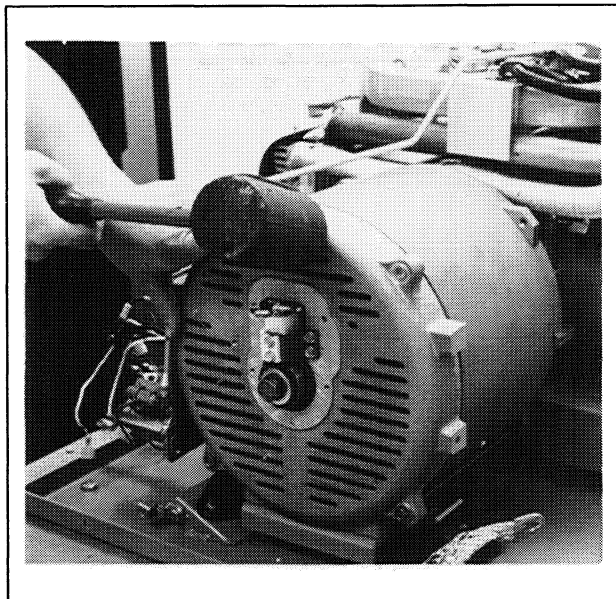

Figure 8-17. Positioning End Bracket
5. Route stator leads through opening in end bracket while positioning end bracket on stator. Tap end bracket into position with a plastic mallet. Figure 8-17.